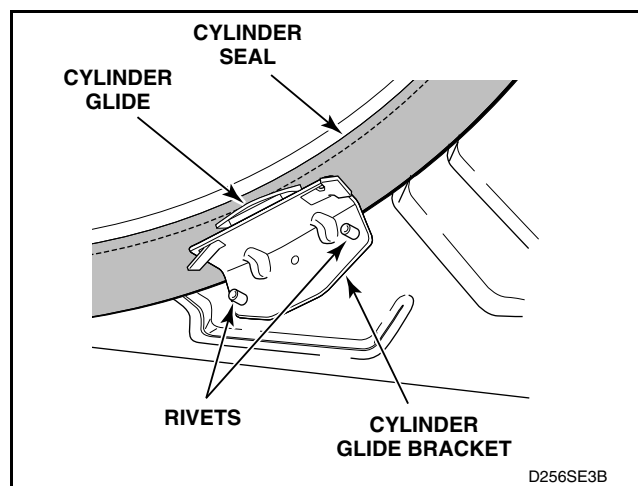

Figure 35
- Cylinder Glides and Glide Bracket. Refer to *Figure 35*.